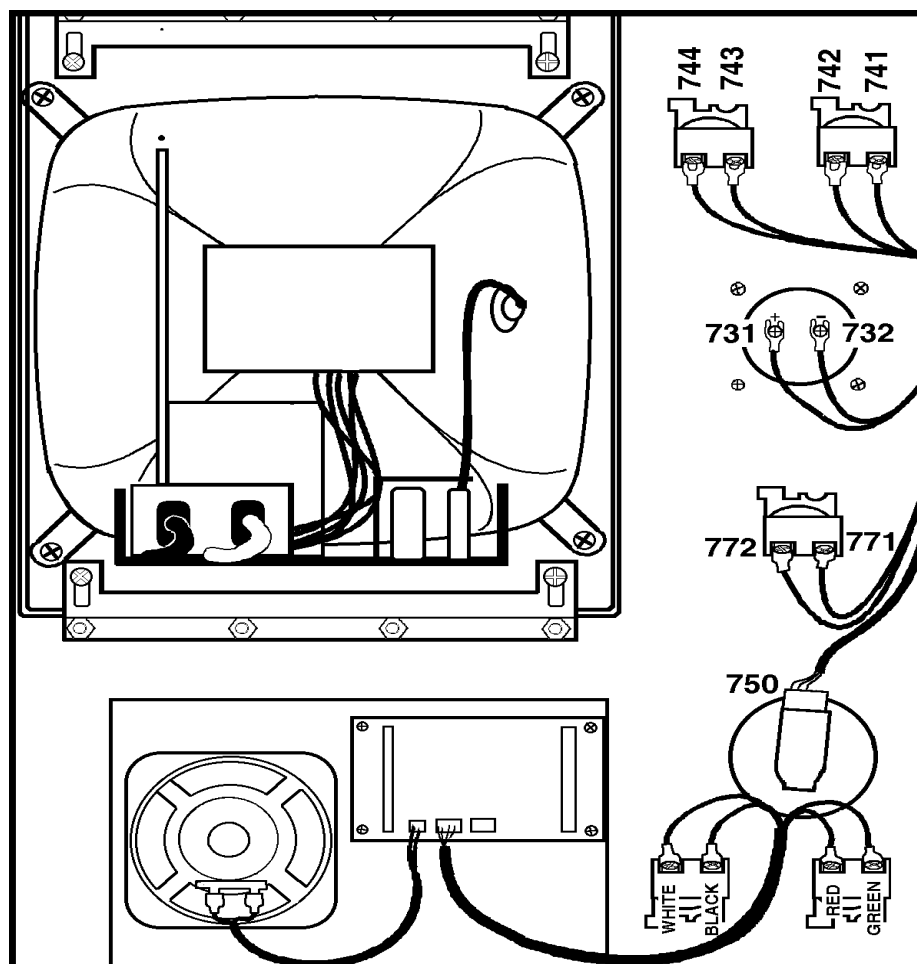

Fig. 4-1 Interior of control panel (rear).
7. Replace by sliding the new assembly onto the eight bolts (four each on top and bottom). Starting with the bottom right, place the washers and hex nuts on the bolts to hold in place. Refer to Fig. 4-1 for the order of replacement.